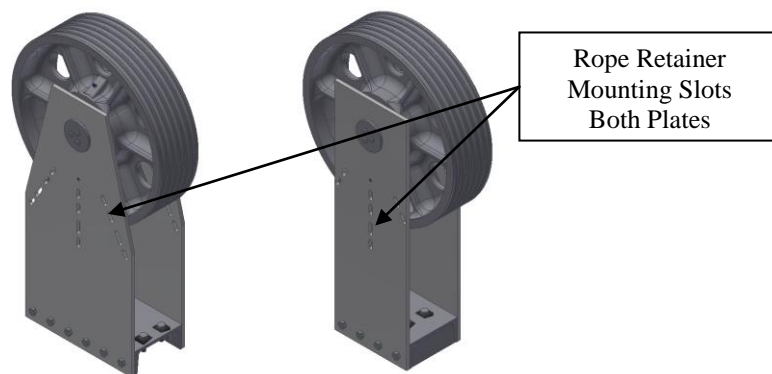

Figure 10: Hanger Sheave Assembly Mounting Provision
- 341 series rope retainers mount directly to hanger sheave assembly side plates. Verify that the side plates of the sheave hanger assembly the rope retainer is to be mounted to has slots to allow for the installation of the rope retainer as indicated below in Figure 10.